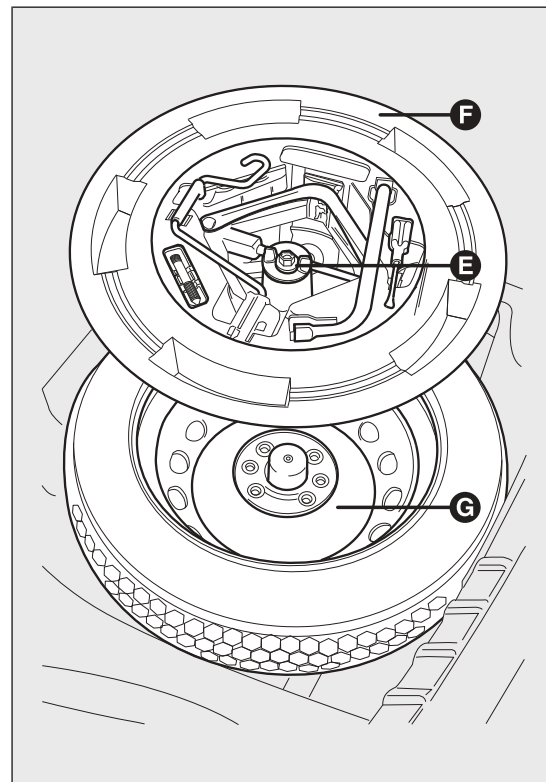

fig. 124
- loosen fastener E fig. 124;
- ❑ for versions equipped with space-saver wheel, loosen fastener E fig. 124, take tool box F, position it near the wheel to be changed and then take space-saver wheel G;